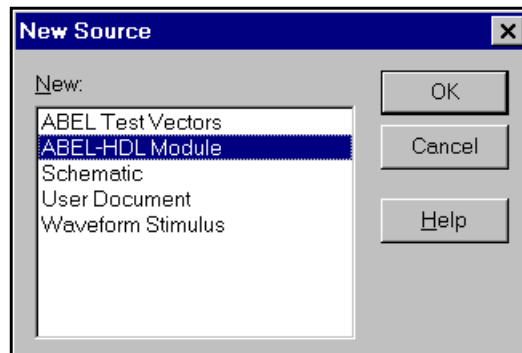

Figure 3-3. New Source Dialog Box
1. Select **Source** ⇒ **New** to create a new design source. The New Source dialog box (Figure 3-3) appears.